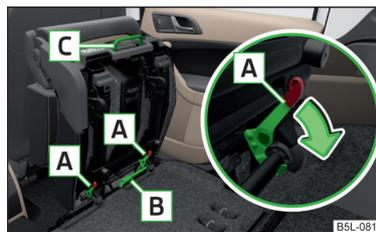

Fig. 71
- Unlock the folded seat by pressing seat locks [A] in the direction of arrow » Fig. 71.
- Fold the outer seat forwards » page 84 and unlock » Fig. 71 on page 84.